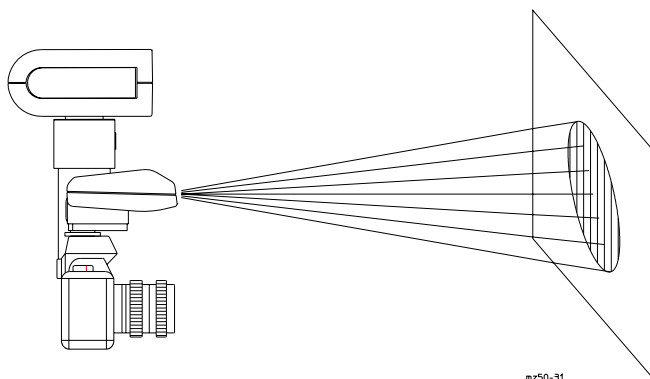

Fig. 21: The AF measuring beam
As the release or other sensory control of the camera is operated, the integrated AF measuring beam (3) is automatically activated in the event of a low lighting level or a low-contrast subject. The transmitted measuring beams are projected onto the subject (fig. 21). The camera's autofocus system uses the light reflected from the subject to measure image sharpness and focus the lens. The range of the AF measuring beam (3) is approx. 9 m with a 50 mm f/1.7 lens.